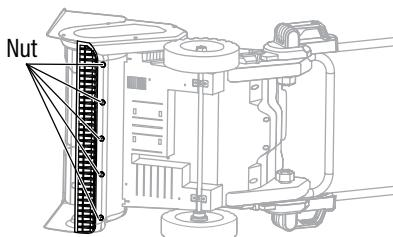

Fig.13A
1. Turn the snow blower on its side to work on the tool. (Fig.13A)